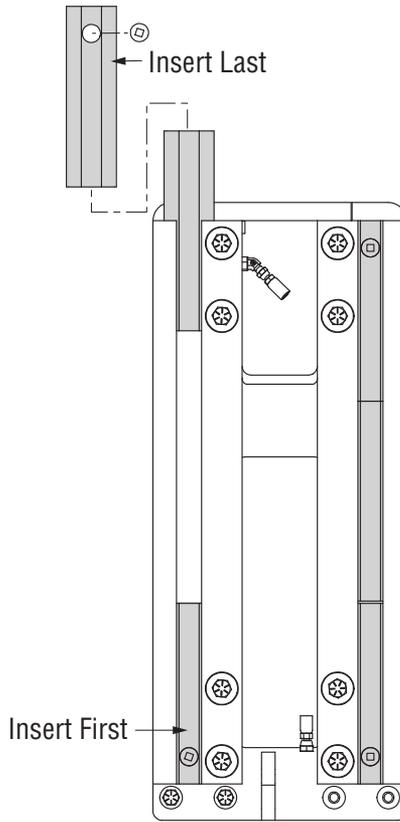

Figure 4-2, Wear Strips
6. Insert the last wear strip end piece with the plug hole at the top and tap into place, lining up the wear plug hole with the hole in the extruded body section. (Figure 4-2)